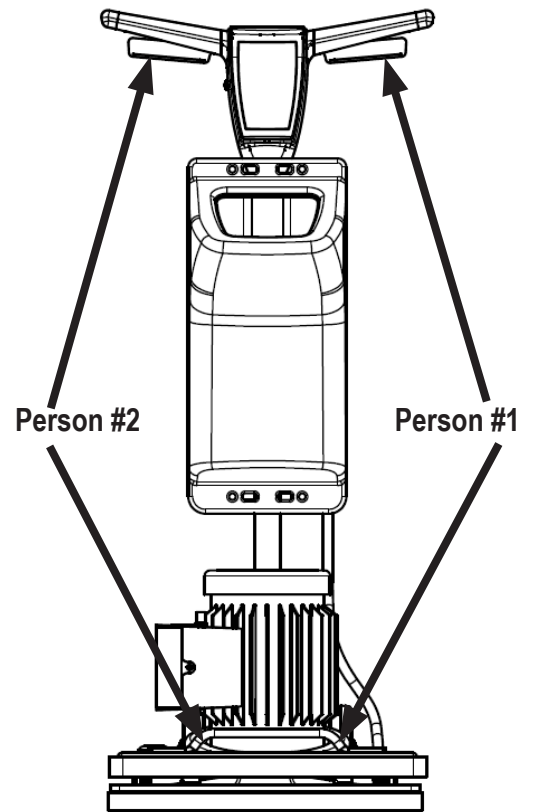

Figure 2
3. Grasp the machine at the lift points (see *Figure 2*) and place in cargo area.